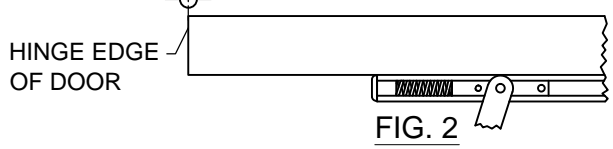

FIG. 2
4. POSITION "SLIDE BLOCK (CAM)" AGAINST END OF RAIL CLOSEST TO HINGE EDGE OF DOOR. SEE FIG. 2.